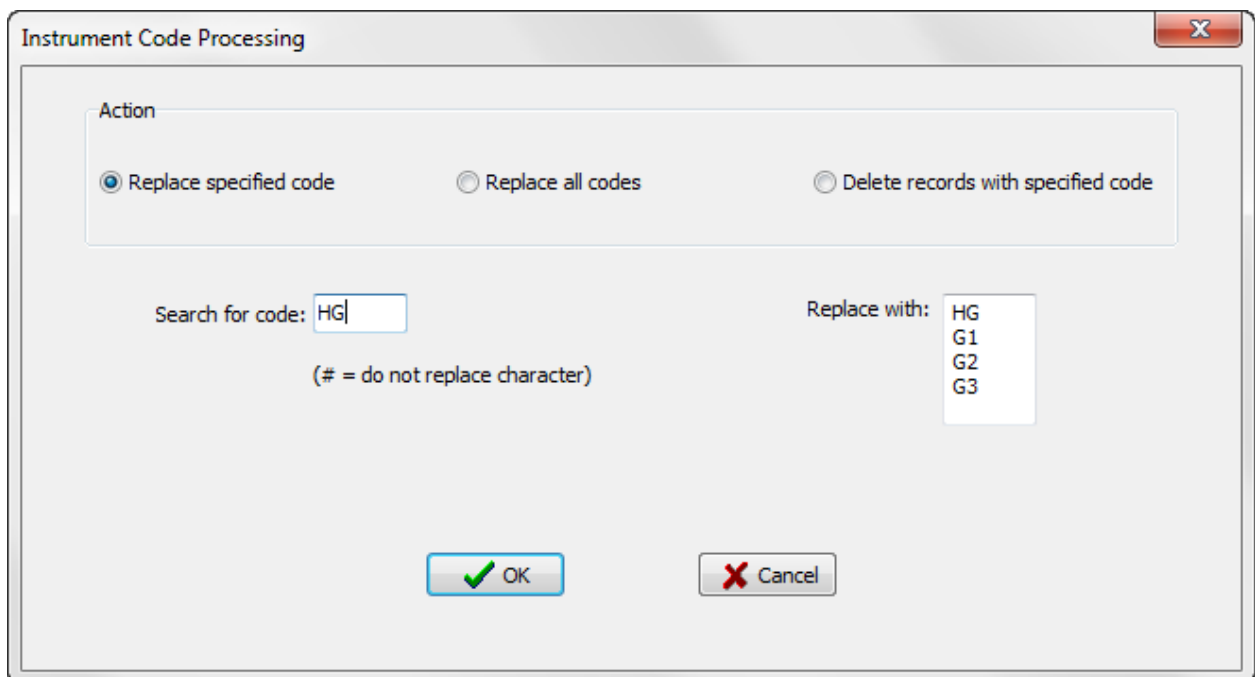

Figure 5-12 – Database: Instrument code processing
- Replace with:** The codes listed here will be used to replace the codes in the file. The example shown in Figure 5-12 would be used to convert a single-component file to a four-component file.